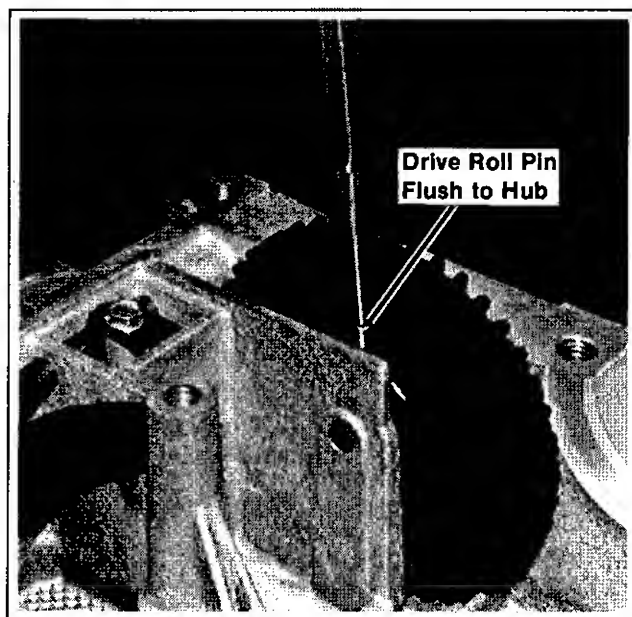

Figure 8-4. Securing Oil Pump Gear To Shaft
3. Rotate pump shaft and gear hub until hole in shaft lines up with slot in gear hub. Lubricate a new roll pin with grease and drive the pin flush to the hub as shown in Figure 8-4.